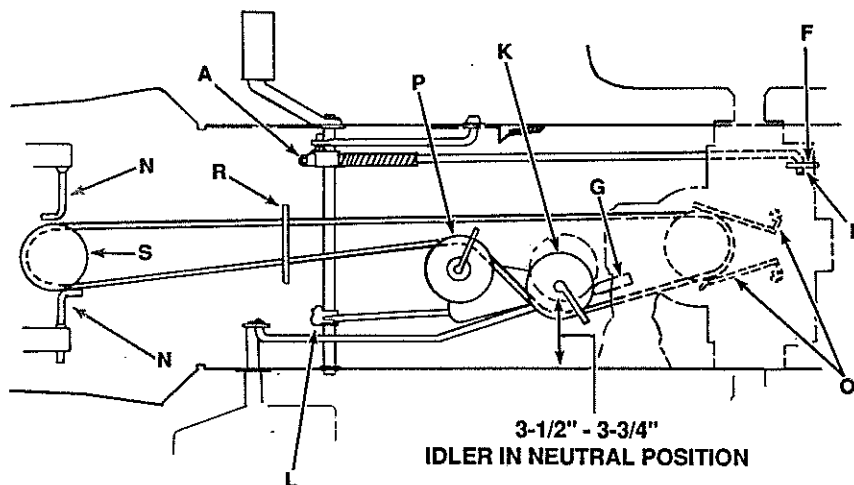

Figure 2-13
With the brake pedal engaged and brake locked in park position, check the distance between idler (K, Figure 2-13) and the frame wall. This dimension should be within 3-1/2" - 3-3/4".
**NOTE:** The belt should not creep when the brake is locked at full engine speed. If an adjustment is required, adjust at pivot (L, Figure 2-13).